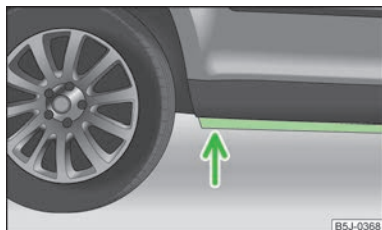

Fig. 114
- Therefore determine the depth of the water before driving through bodies of water. The water level must fit around the strut on the side member as a maximum » Fig. 114;